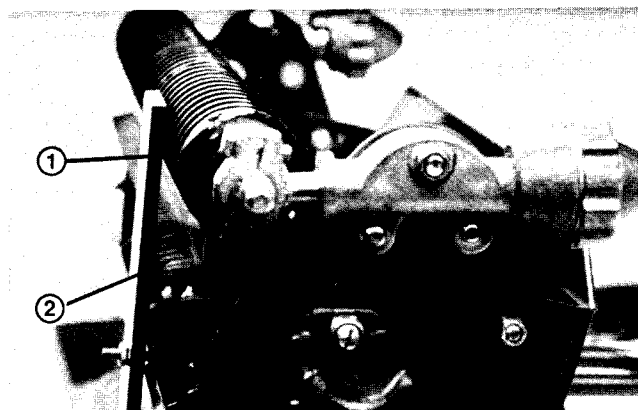

Figure 17
1. Make sure rear roller is in the desired height of cut position. Loosen the bolts anchoring the front roller shaft (Fig. 17). Rotate the shaft.
2. To adjust the aggressiveness of the comb teeth (Fig. 17), proceed as follows: